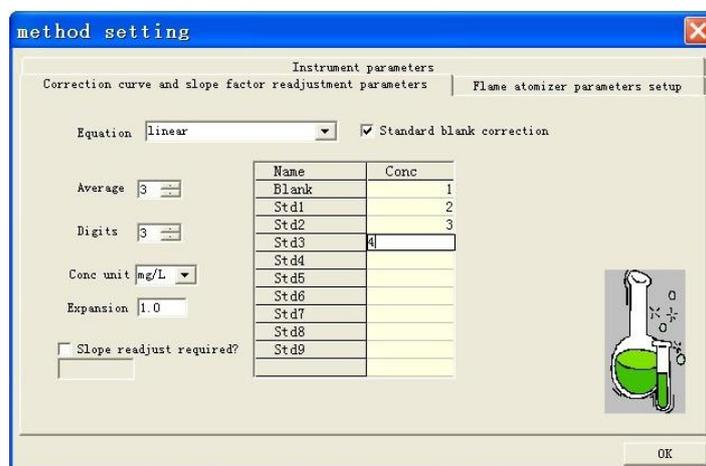

Figure 6-8
10. Press "Settings" to enter the "Correction curve and slope factor readjustment parameters" screen. Select "Linear method" in the "Equation selection" pull-down list. Enter the conditions as shown in Figure 6-8.